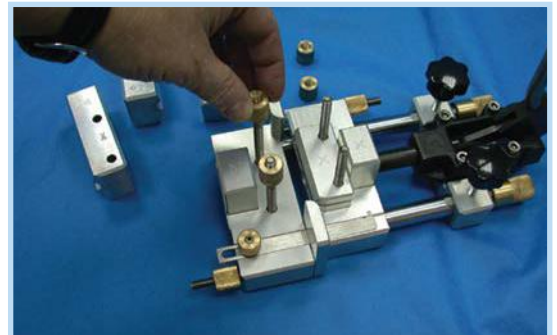

Fig. 3
1. Remove 4 Die Locking Nuts (Fig. 3).
The Easy Overlap Tool provides an overlap of the reinforcing cord of 60 mm (2 3/8"). In order to ensure the correct finished belt length you must add 60 mm (2 3/8") to the original profile length (Fig. 3). For example, when preparing a belt with a length of 1000 mm (39 3/8"), cut the profile to a length of 1060 mm (41 3/4").